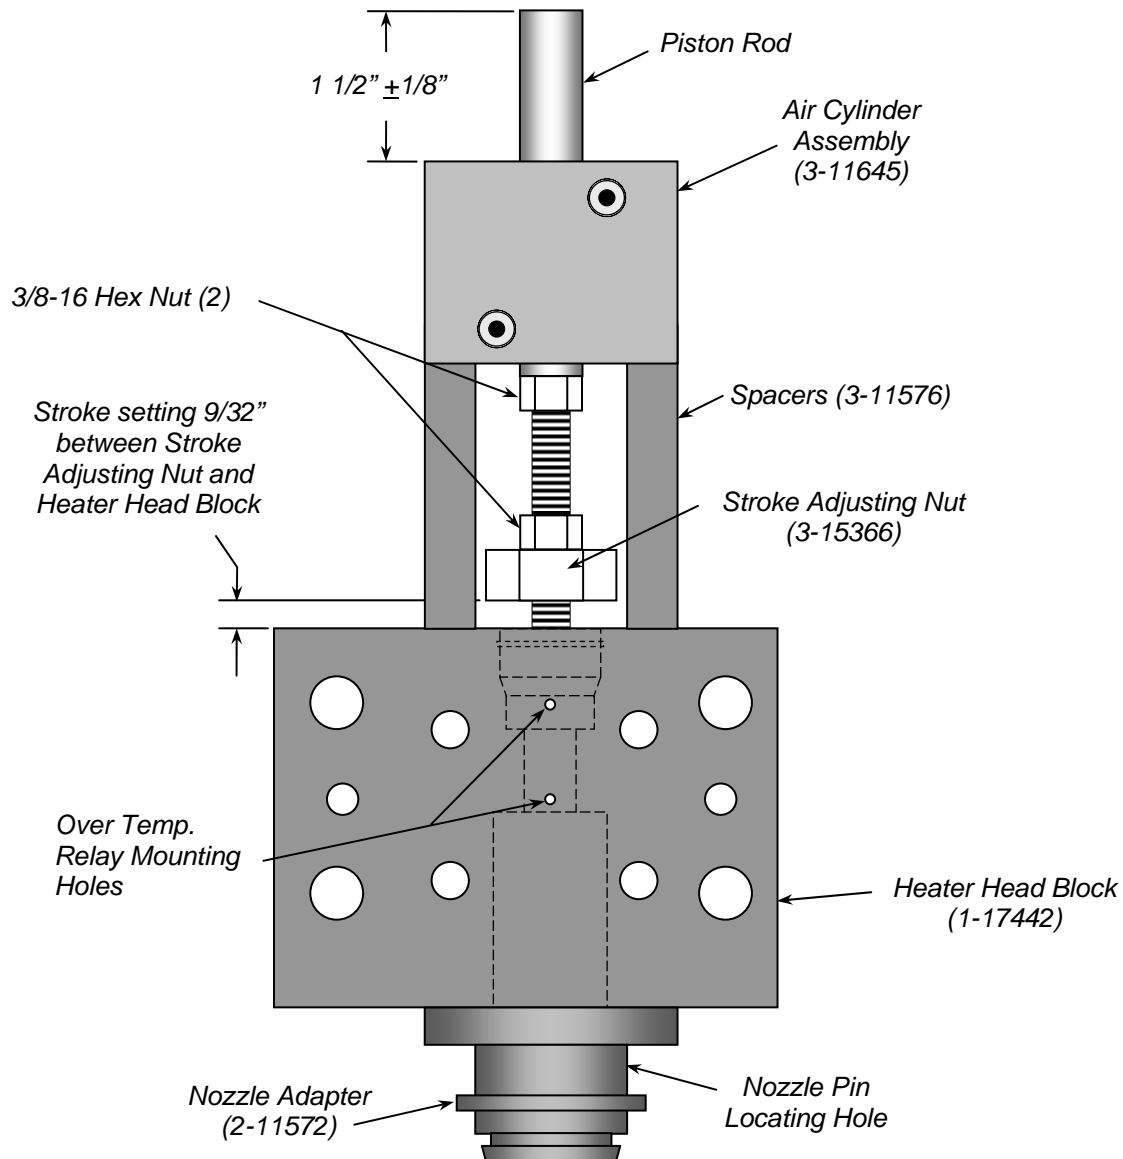

Figure 10
6. Apply Never-Seez® lubricant to the four 5/16 - 18 x 3/4 flat head machine screws (753-0034) and mount the nozzle adapter to the heater head block. Make sure that the nozzle adapter is correctly positioned with the nozzle pin locating hole facing the entry end of the extruder. See Figure 10.
This initial adjustment insures that the piston does not slam into the endcaps and that material will be able to flow from the desiccated matrix nozzle. See Figure 10.
18. The distance from the top of the piston rod to the top surface of the air cylinder should measure 1 1/2" +1/8". See Figure 10.